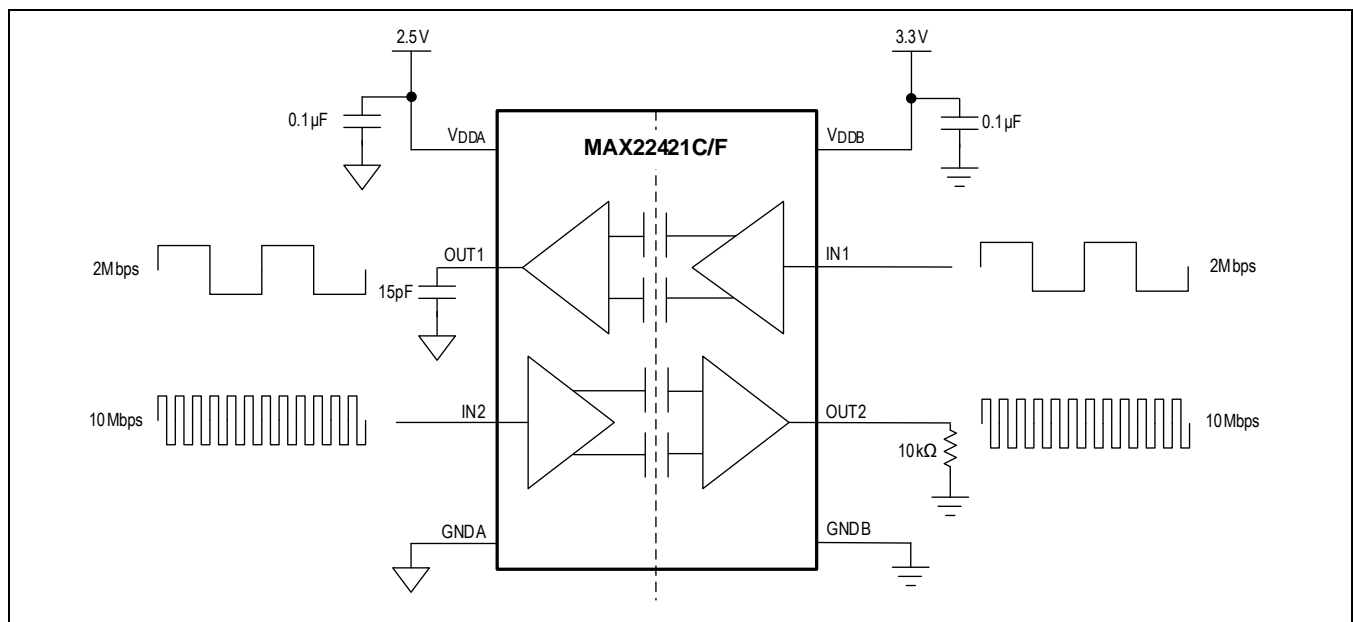

Figure 11. Example Circuit for Supply Current Calculation
**Example** (shown in Figure 11): A MAX22421C is operating with  $V_{DDA} = 2.5V$ ,  $V_{DDB} = 3.3V$ , channel 1 operating at 2Mbps with a 15pF capacitive load, and channel 2 operating at 10Mbps with a 10k $\Omega$  resistive load. See Table 5 and Table 6 for  $V_{DDA}$  and  $V_{DDB}$  supply-current calculation worksheets.